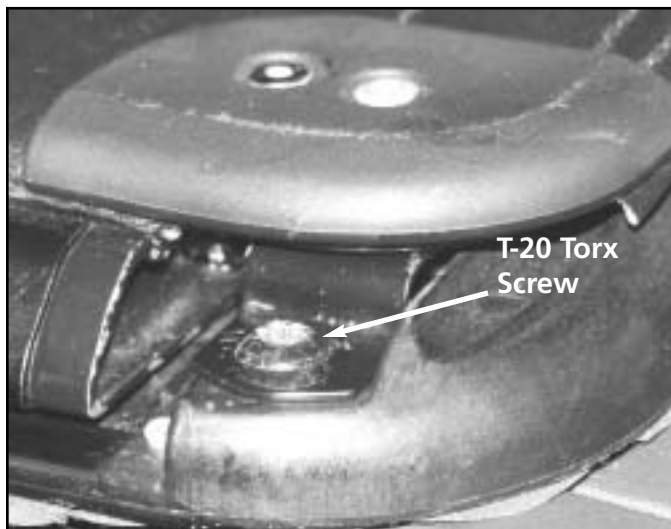

Figure S-18
8. Install the two (2) T-20 Torx slider retainer screws into the front rail and fasten. See figure S-18.